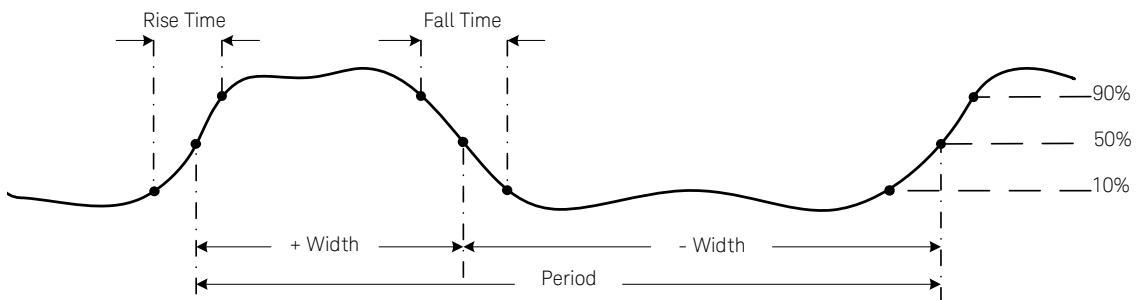

Figure 2-32 Frequency, pulse width, and duty cycle measurements
- Frequency is the number of cycles a signal completes each second. Frequency is defined as $1/\text{Period}$. Period is defined as the time between the middle threshold crossings of two consecutive, like-polarity edges, as shown in **Figure 2-32**.
The pulse width function measures the amount of time a signal is high or low, as shown in **Figure 2-32**. It is the time from the middle threshold of the rising edge to the middle threshold of the next falling edge. The measured waveform must be periodic; its pattern must repeat at equal time intervals.
The duty cycle (or duty factor) of a repetitive pulse train is the ratio of the positive or negative pulse width to the period expressed as a percentage, as shown in **Figure 2-32**.